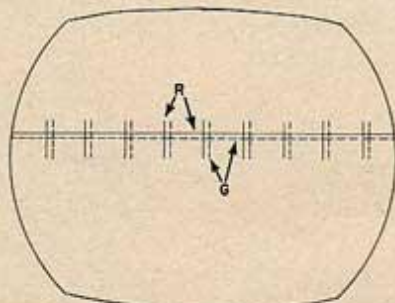

Fig. 2F. Equal displacement of vertical lines on horizontal axis
9. *a.*—Turn up red, VR-5B, and green VR-5A, amplitudes simultaneously to obtain equal displacement of the green vertical lines and parallel or superimposed horizontal red and green lines along the horizontal axis only. See figure 2F.